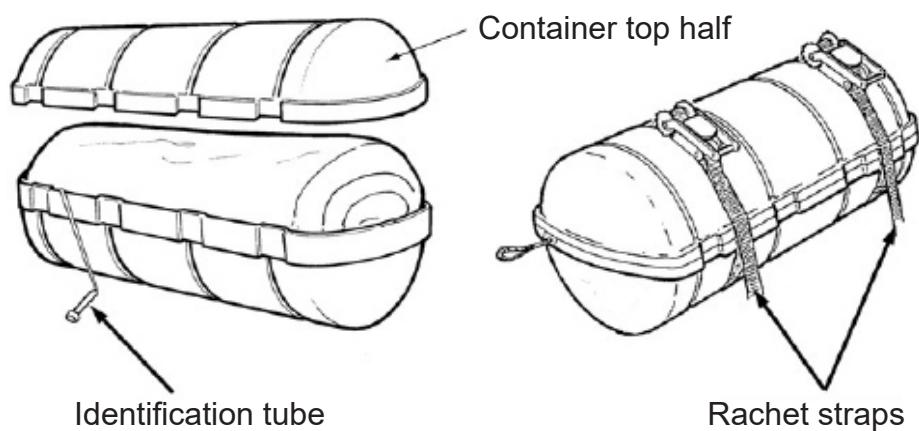

FIGURE 859
- 6.42 Put the top half of the container on top of the folded liferaft. Refer to FIGURE 859.
- 6.43 Put two ratchet straps around the container and make sure that the ratchet straps do not cover the grooves in the container. Refer to FIGURE 859.
- 6.44 Continue closing the container slowly, while alternating from one strap to the other. Whilst doing so, CAREFULLY position the top half of the container either by striking it with a rubber mallet or by levering it with a hardwood or metal spatula against the bottom half. Refer to FIGURE 859.